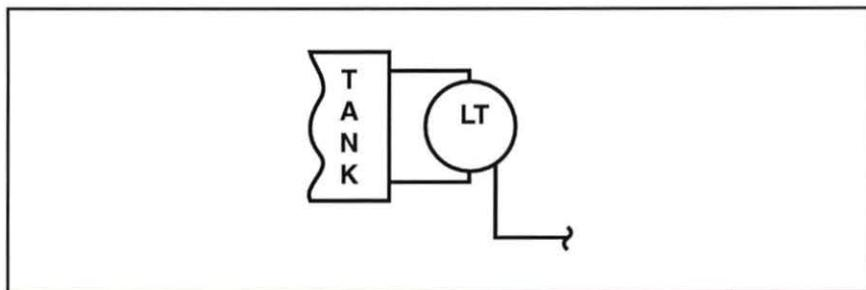

Figure 43. Level Sensing Element Symbol
7. Determine what type of level sensing element symbol is shown in figure 43.